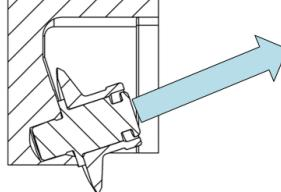

Fig. 3
4. To remove the knife, grasp it by the shoulder, twist it and pull it off (Fig.3)